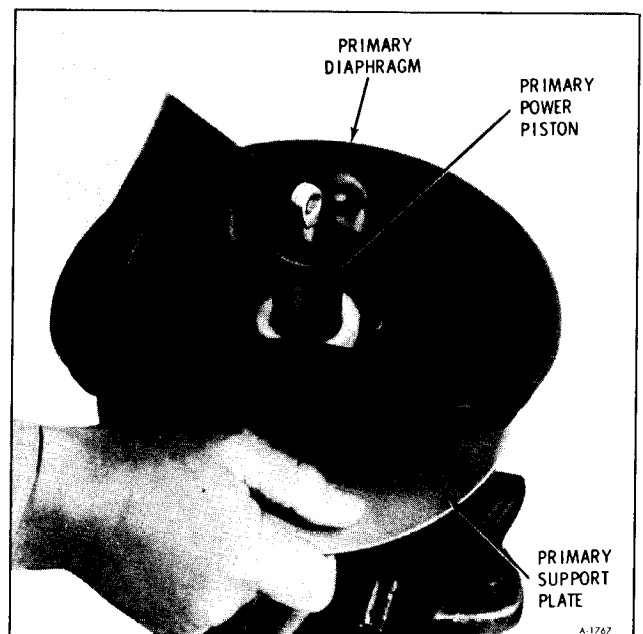

Figure 43—Removing Primary Diaphragm
19. Fold back primary diaphragm from the support plate. Grip the edge of the support plate and rotate in a counterclockwise direction to unlock the primary support plate from the primary power piston. (figure 43)
14. Grip the edges of the primary support plate, press down, and rotate clockwise until the tabs on the primary power piston contact the stops on the support plate. (figure 43)